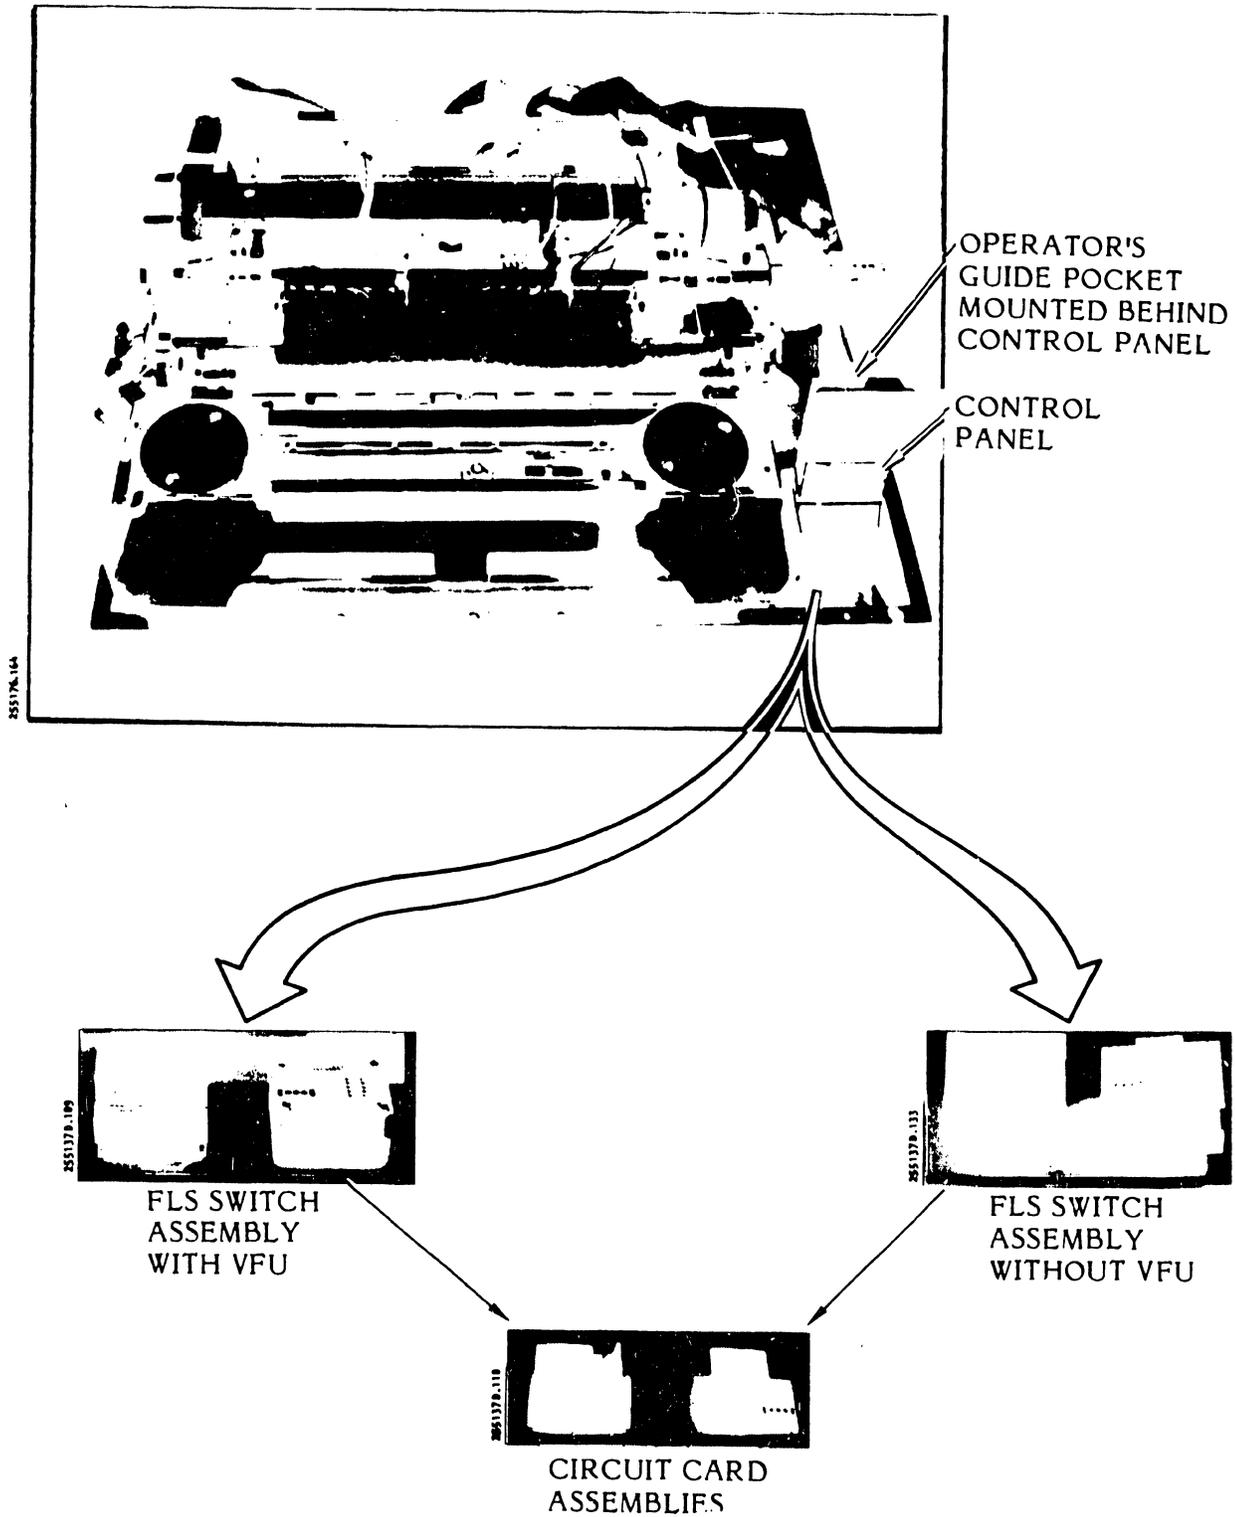

Figure 3-97. Forms Length Select Switch Circuit Card Assembly Removal/Installation
**3.7.28 Forms Length Select (FLS) Switch Circuit Card Assembly Removal/Installation (Figure 3-97)**